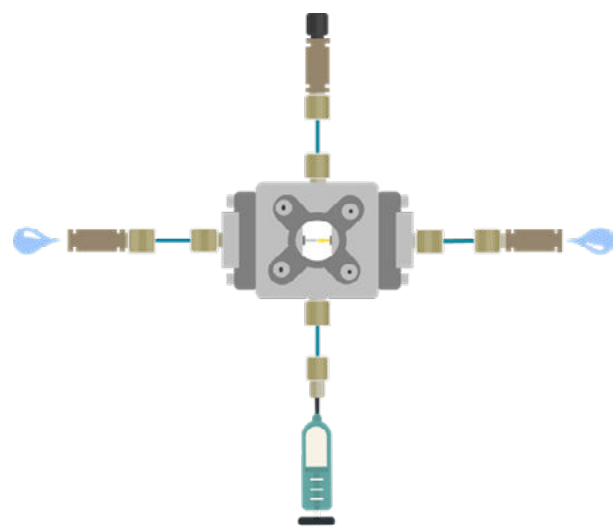

Figure 27: Filling the Raydrop with specific solvent
- 3 Fill the chamber of the RayDrop with ethanol or other solvent which could dissolve the inner phase stuck in the nozzle (IPA, Acetone...) (Fig 27).